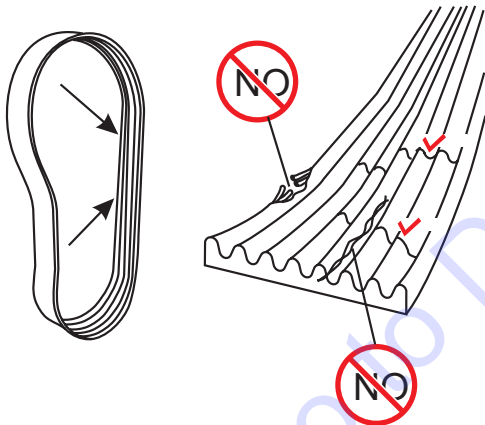

Figure 35. Wear and Tear Check
2. Regularly check the poly V-belt for wear. If wear is detected (Figure 35), the belt must be replaced immediately.